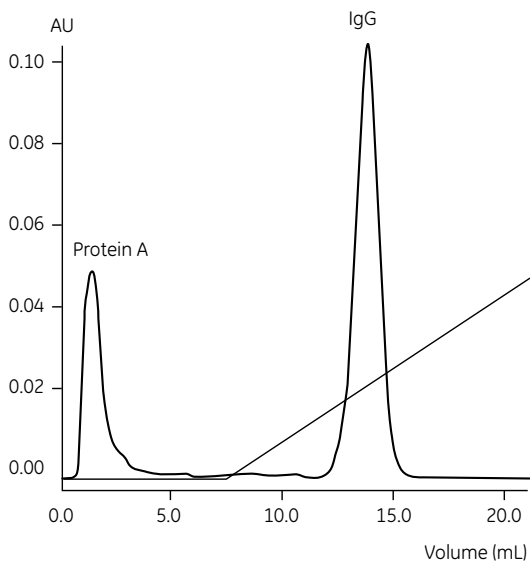

Fig 5. Removal of protein A from mouse IgG_{2b} by cation exchange chromatography on HiTrap™ SP HP. Recombinant protein 0.005
- **Cation exchange chromatography** is an effective tool for removing residual protein A, especially when the particular monoclonal has strong cation exchange binding characteristics. The run is conducted at a pH in which the antibody is known to dissociate from protein A. Protein A binds poorly to cation exchangers and will pass unretained or elute early in the gradient (Figure 5).